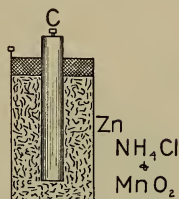

FIGURE 230.—CROSS SECTION OF A SIMPLE DRY CELL.
Figure 230 shows a cross section of this cell. The outside, or case, is zinc, and acts as the negative electrode. The center portion (C) is a stick of carbon, which is the positive electrode. Packed in around this carbon stick is a paste of  $NH_4Cl$  and manganese dioxide ( $MnO_2$ ). The  $NH_4Cl$  is the active portion, and the manganese dioxide is put in to retard polarization. This is an open-circuit cell.